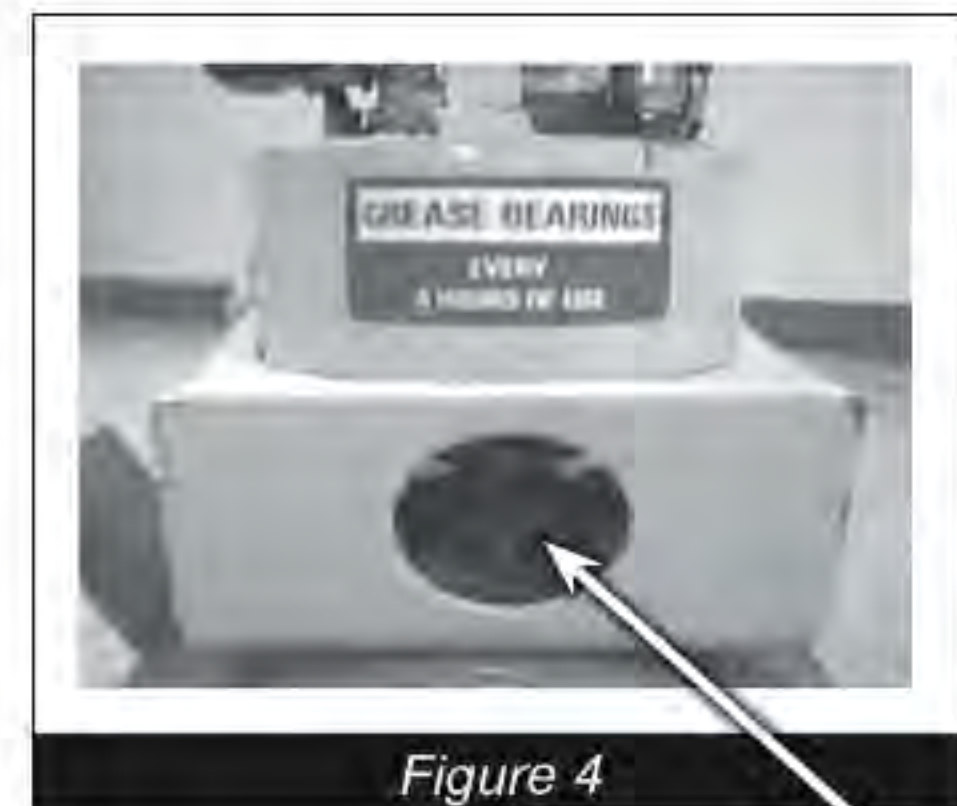
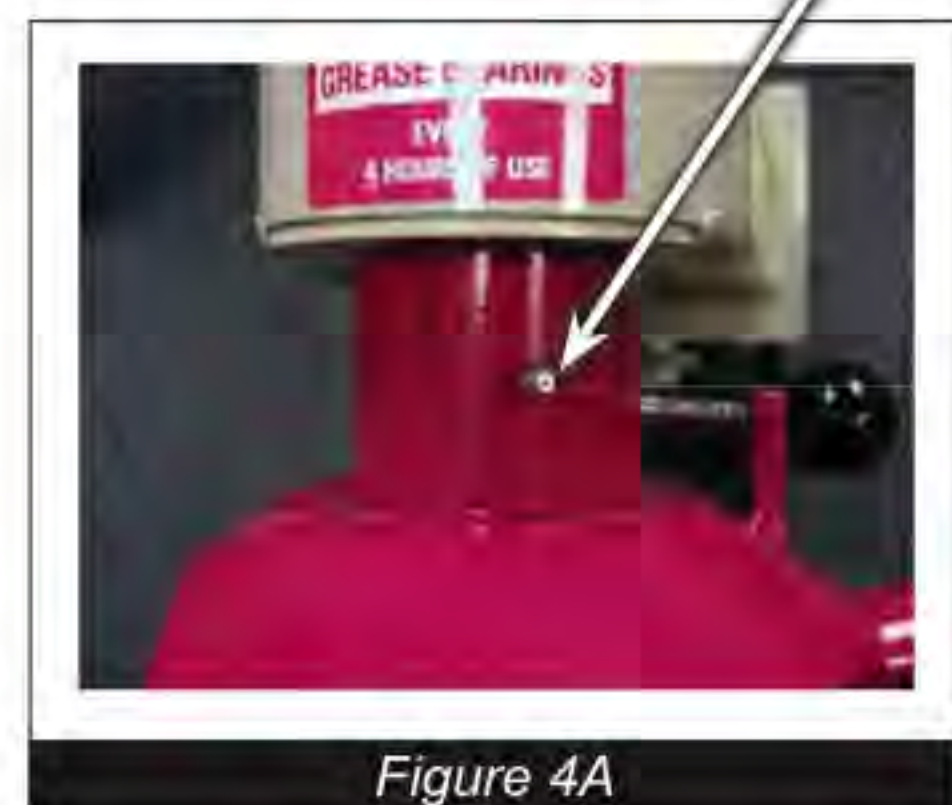

Figure 4
Figure 4A
- Grease disc bearings every 4 hours of use. To access the bearings on the EDG-7 and TG-7, simply remove the front cap-plug cover (*Figure 4*) with a flat screwdriver. Both of the bearings are self-aligning, sealed flange mounted, equipped with grease fittings. To access the fitting on the TMC-7 refer to (*Figure 4A*). These bearings are tapered roller bearings lubricated with High Temp Lubriplate No. 930-AA, or equivalent bearing grease. Do not over lubricate. Be sure to clean up any excess grease after lubricating the bearings. These bearings can occasionally require adjustment. If it is evident that these bearing need adjustment they can be accessed by removing the belt cover.